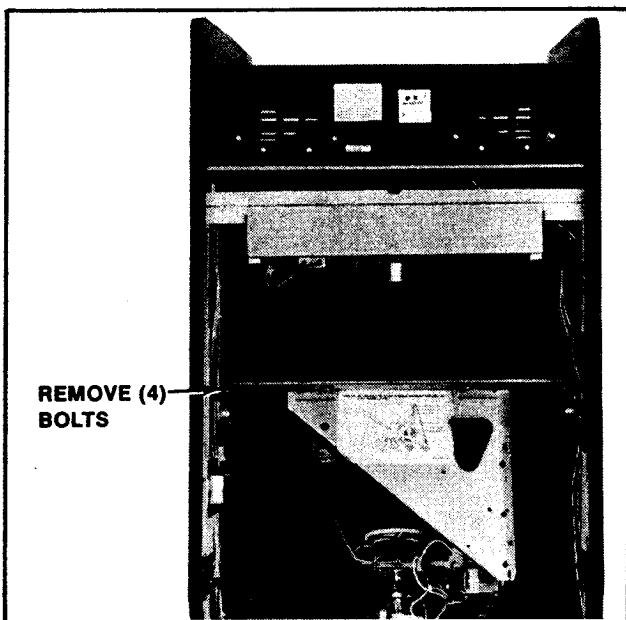

Figure 4-9 Removing Monitor — Upright
1. UPRIGHT MODEL. See Figure 4-9.
- ☐ The monitor mounting brackets slide on top of and against two metal guides mounted to the cabinet's right and left sides. The monitor is removed by sliding it out the back of the cabinet. See Figure 4-9.